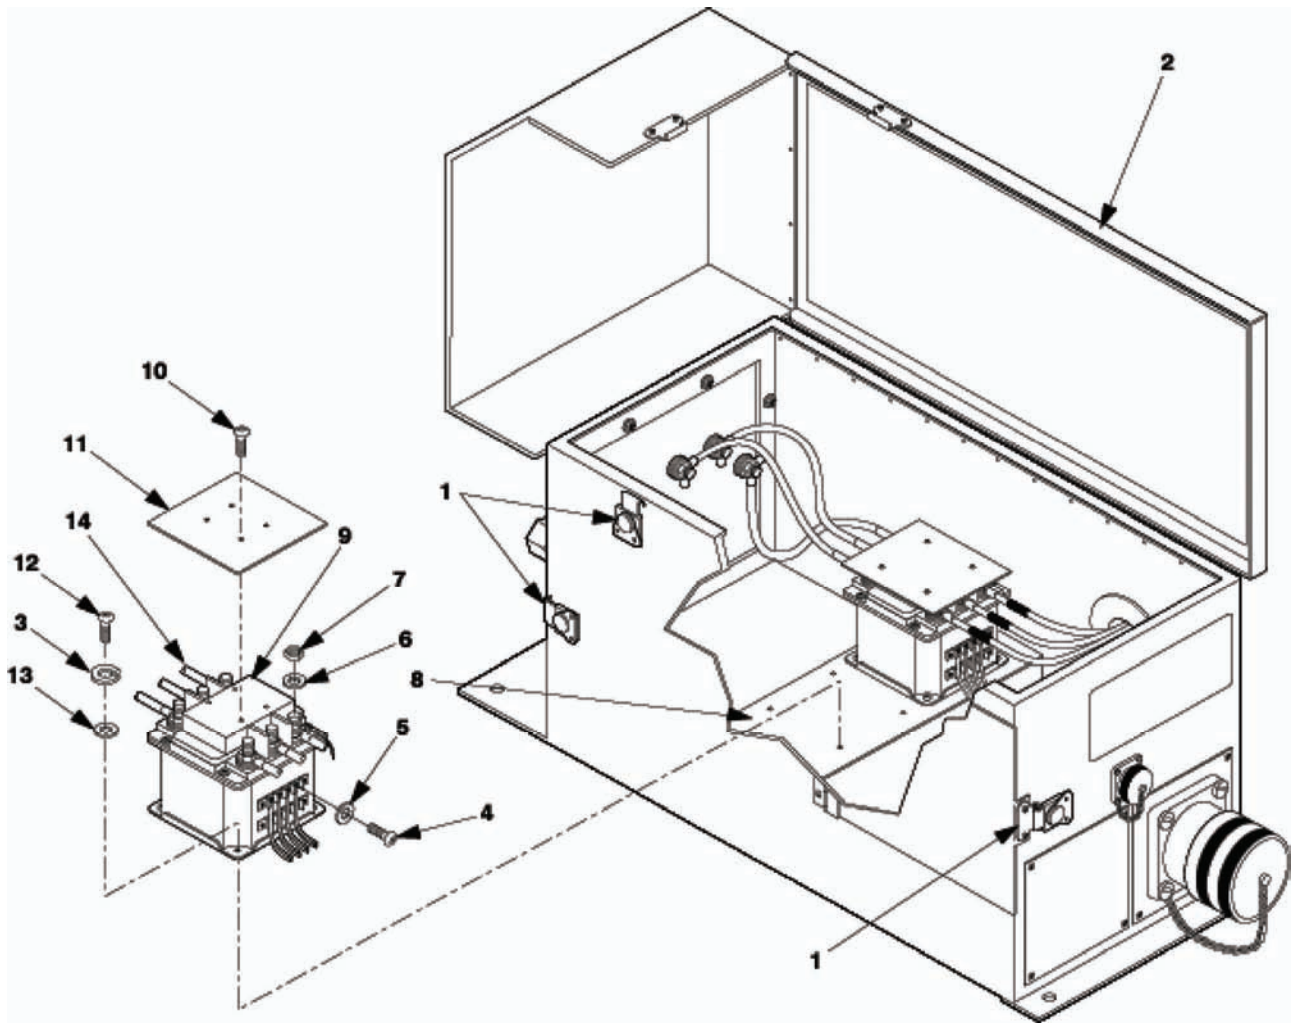

Figure 5-14.2. Contactor Maintenance (B&C Models).
1. Release clamping catches (1, figure 5-14.2) on switch box cover (2).
2. Lift switch box cover (2).
3. Remove screws (10) and terminal shield (11) from the contactor (9).
4. Remove nuts (7) and flat washers (6). Tag and remove six leads from contactor (9).
5. Remove terminal screws (4) and flat washers (5). Tag and remove wiring harnesses from contactor (9).
6. Remove screws (12), lock washers (3), flat washers (13), and contactor (9). Discard lock washers (3).